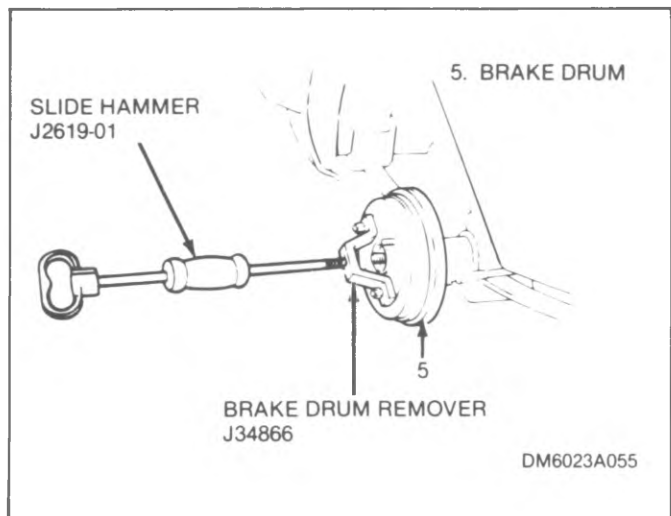

Figure 4-11. Removing Sprint Brake Drum Using Special Tools
6. Remove brake drum (5). Special tools as shown in figure 4-11, or equivalent, may be required.